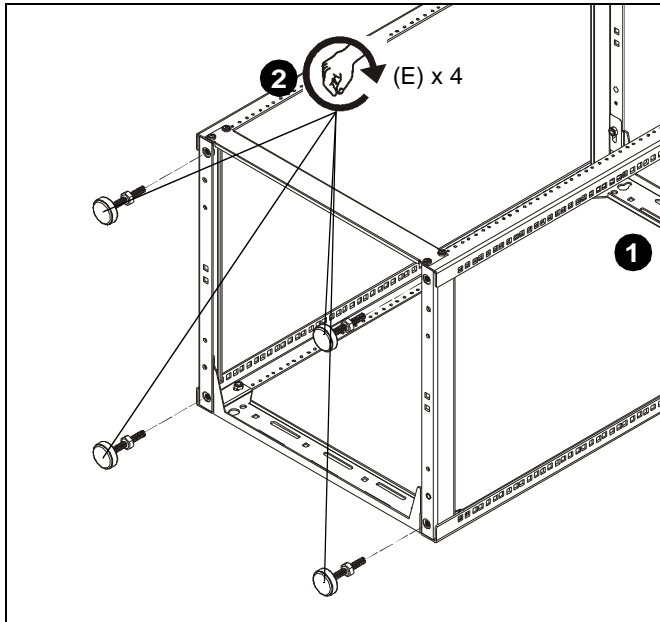

Figure 5
1. Lay assembled frame on its back. (See Figure 5)
2. Thread four feet (E) into holes on bottom of frames. (See Figure 5)